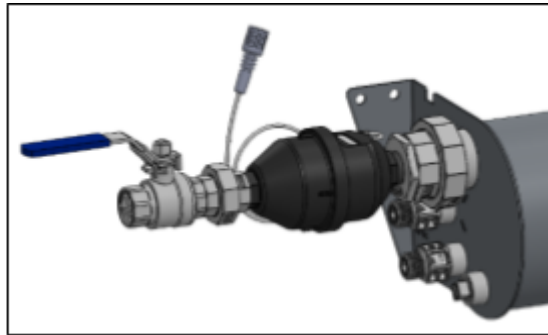

Figure 9.
- o **▲Note:** Install the water meter with the dials facing up and the arrow pointing toward the mixing tank. See Figure 9.